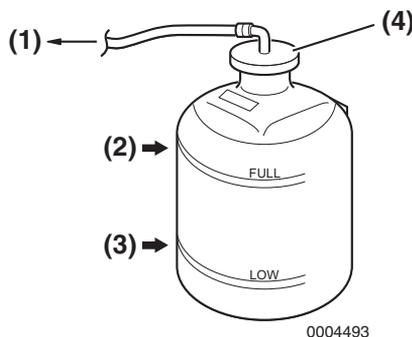

Figure 13
5. Check the coolant level in the reservoir. The level should be at the FULL mark (Figure 13, (2)). Add coolant if necessary.
6. Remove reservoir cap (**Figure 13, (4)**) to add coolant if necessary. Do not add water.
8. Check the rubber hose (**Figure 13, (1)**) connecting the reservoir to coolant tank/heat exchanger. Replace if damaged.